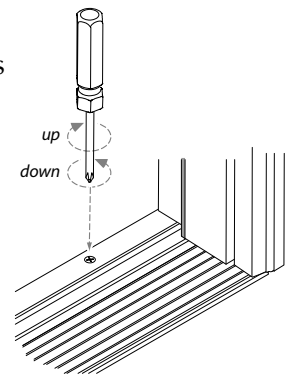

Figure 12
- Make sure door sweep is contacting the sill evenly. The sill cap can be adjusted if needed. A clockwise turn raises the sill cap (figure 12).